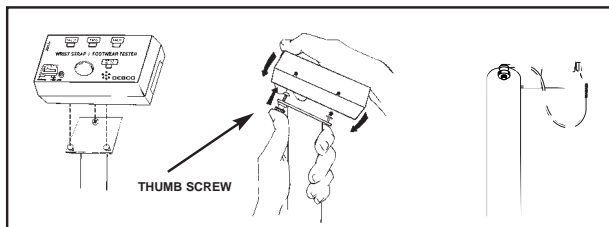

Figure 10. Installing Tester on bracket and securing Tester to bracket
- D. Install the Tester on the bracket by aligning keyholes on the back of tester with mounting studs on bracket. While pushing up on thumb screw, insert the mounting studs into the keyholes and slide the tester down. See Figure 10.